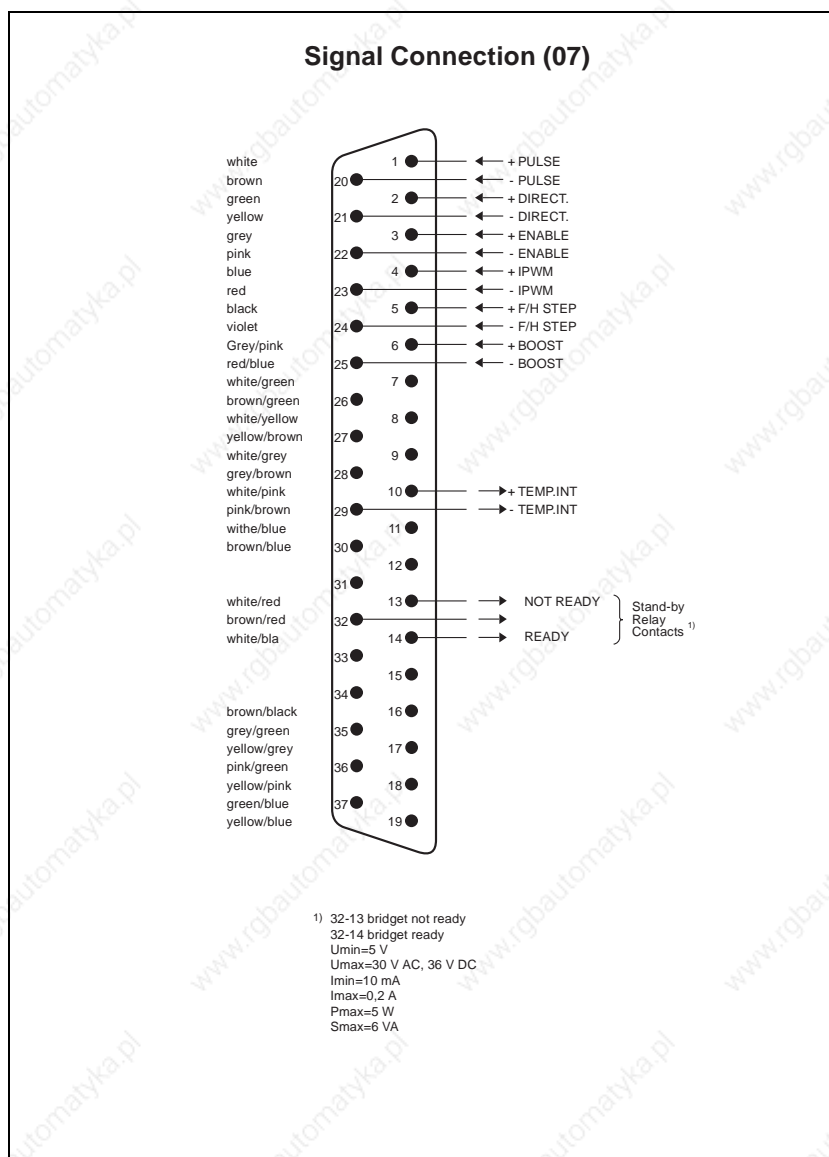

Figure 2-8 Wiring the signal connector
1. Twist the wires of the signal cables in pairs and solder them onto the 37 pins Sub-D-socket, according to figure 2-8.